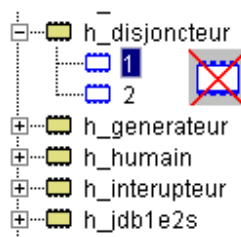

Figure 134 : Component selection
- ♦ Select the selected component version using the mouse left click (Figure 134).